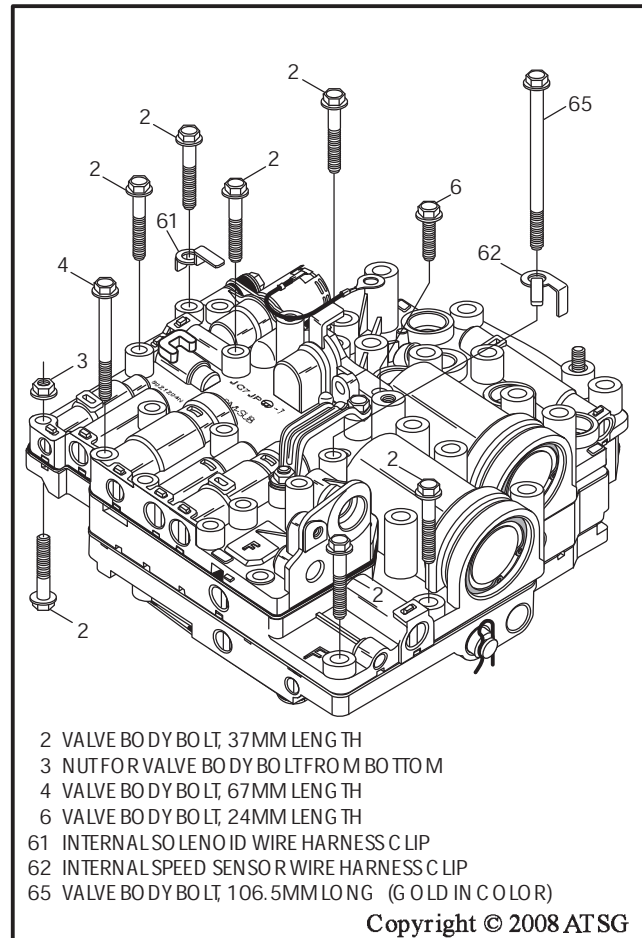

Figure 175
45. Install a 37mm bolt (2), from the bottom, in the lower left side of the valve body, as shown in Figure 175, install nut (3) and hand tighten only at this time.
46. Install six 37mm bolts (2), in locations shown in Figure 175, and hand tighten only.
- Note: One of these bolts has a internal wire harness retainer (61).**
47. Install one 24mm bolt (6), in location shown in Figure 175, and hand tighten only.
48. Install one 67mm bolt (4), in location shown Figure 175, and hand tighten only.
49. Install the 106.5mm bolt (65), along with the wire harness retainer (62), in location shown Figure 175, and hand tighten only.